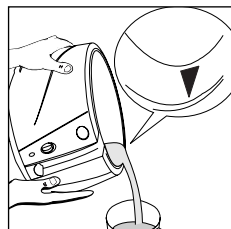

fig. 6
- by the arrow (fig. 6) right front edge of the tank.